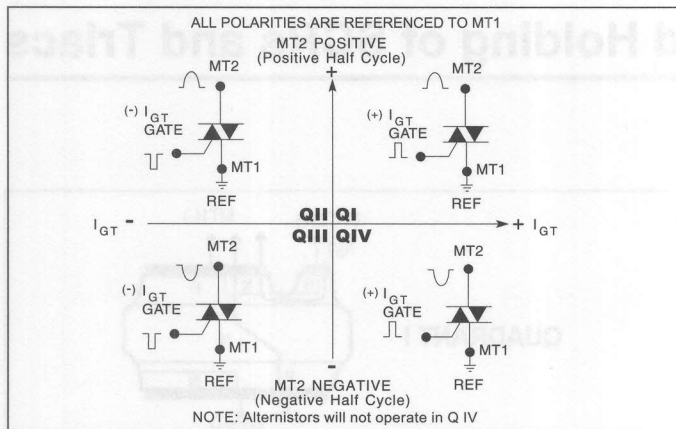

Figure 15.3 Definition of Operating Quadrants in Triacs
Triacs can be gated on in four (4) basic gating modes as shown in Figure 15.3. The most common Quadrants for gating on triacs are Quadrants I and III, where the gate supply is synchronized with the main terminal supply; i.e., gate positive — MT2 positive, gate negative — MT2 negative. Optimum triac gate sensitivity is achieved when operating in Quadrants I and III due to the inherent thyristor chip construction. If, however, Quadrants I and III operation cannot be used, the next best operating modes are Quadrants II and III, where the gate supply is negative with respect to AC main terminal supply. Typically, the gate sensitivities of Quadrants I and II are approximately equal; however, quadrant II has the lowest latching current sensitivity. Therefore,